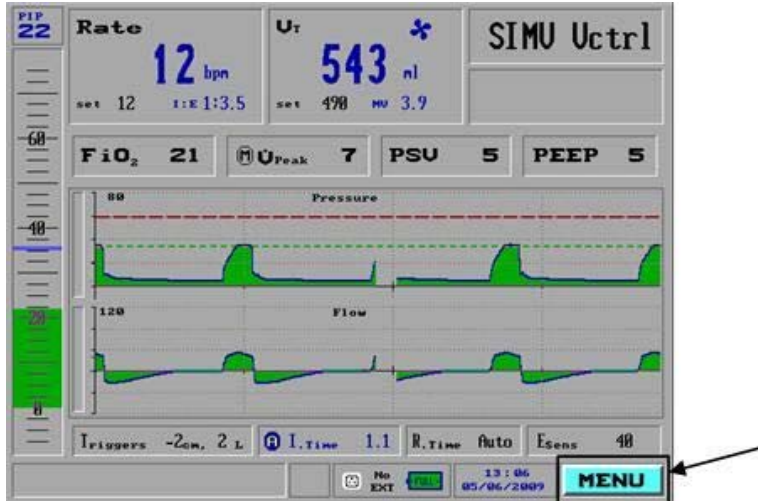

Figure 74: The Menu Option Selected on the Main Screen
1. Access the **Main Menu** from the **Main** screen by dialing the Control Knob until the **MENU** option on the lower right corner is selected in bright blue (Figure 74).